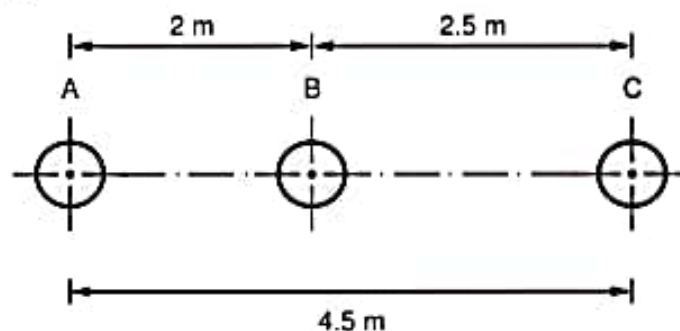

Fig. 1
- c) A 3- $\phi$ , 50 Hz, 66 kV overhead line conductors are placed in a horizontal plane as shown in Fig. 1. The conductor diameter is 1.25 cm. If the line length is 100 km, Calculate : i) Capacitance per phase ii) Charging current per phase, assuming complete transposition of the line, Given  $\epsilon_0 = 8.854 \times 10^{-12}$ . (Refer example 4.24.2) [6]